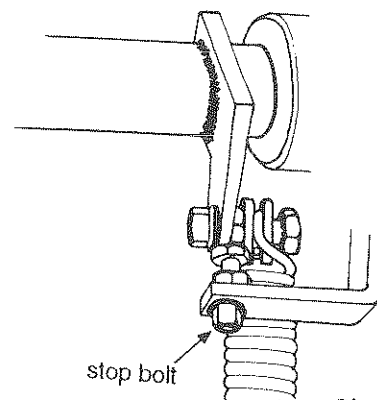

Fig. 24
4. Adjust the position of the twine fingers at the needle slots with the return stop bolts on each twine finger drive shaft, see **Fig. 24**. Remember to adjust both sides.